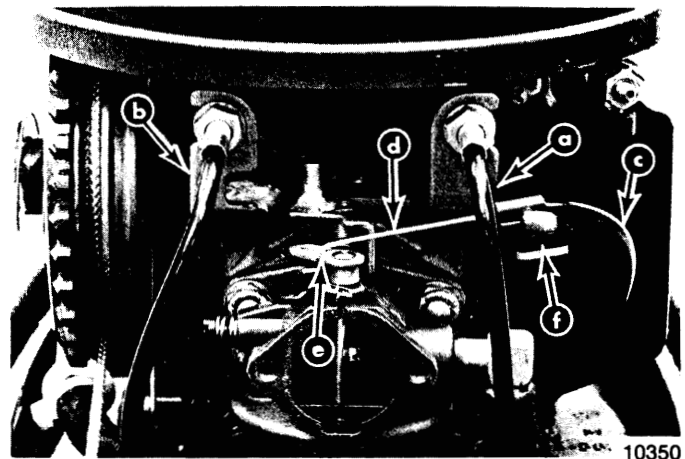

Figure 3. Sound Box Removed
4. Loosen jam nuts on No. 1 and No. 2 throttle cables and disconnect cables. (Figure 3)
9. Disconnect choke cable at carburetor. (Figure 3)
- a. Insert cable core wire into inner hole (hole closest to shaft) of carburetor choke shaft. (Figure 3)
- b. Loosely attach cable retaining clip to mounting bracket. (Figure 3)